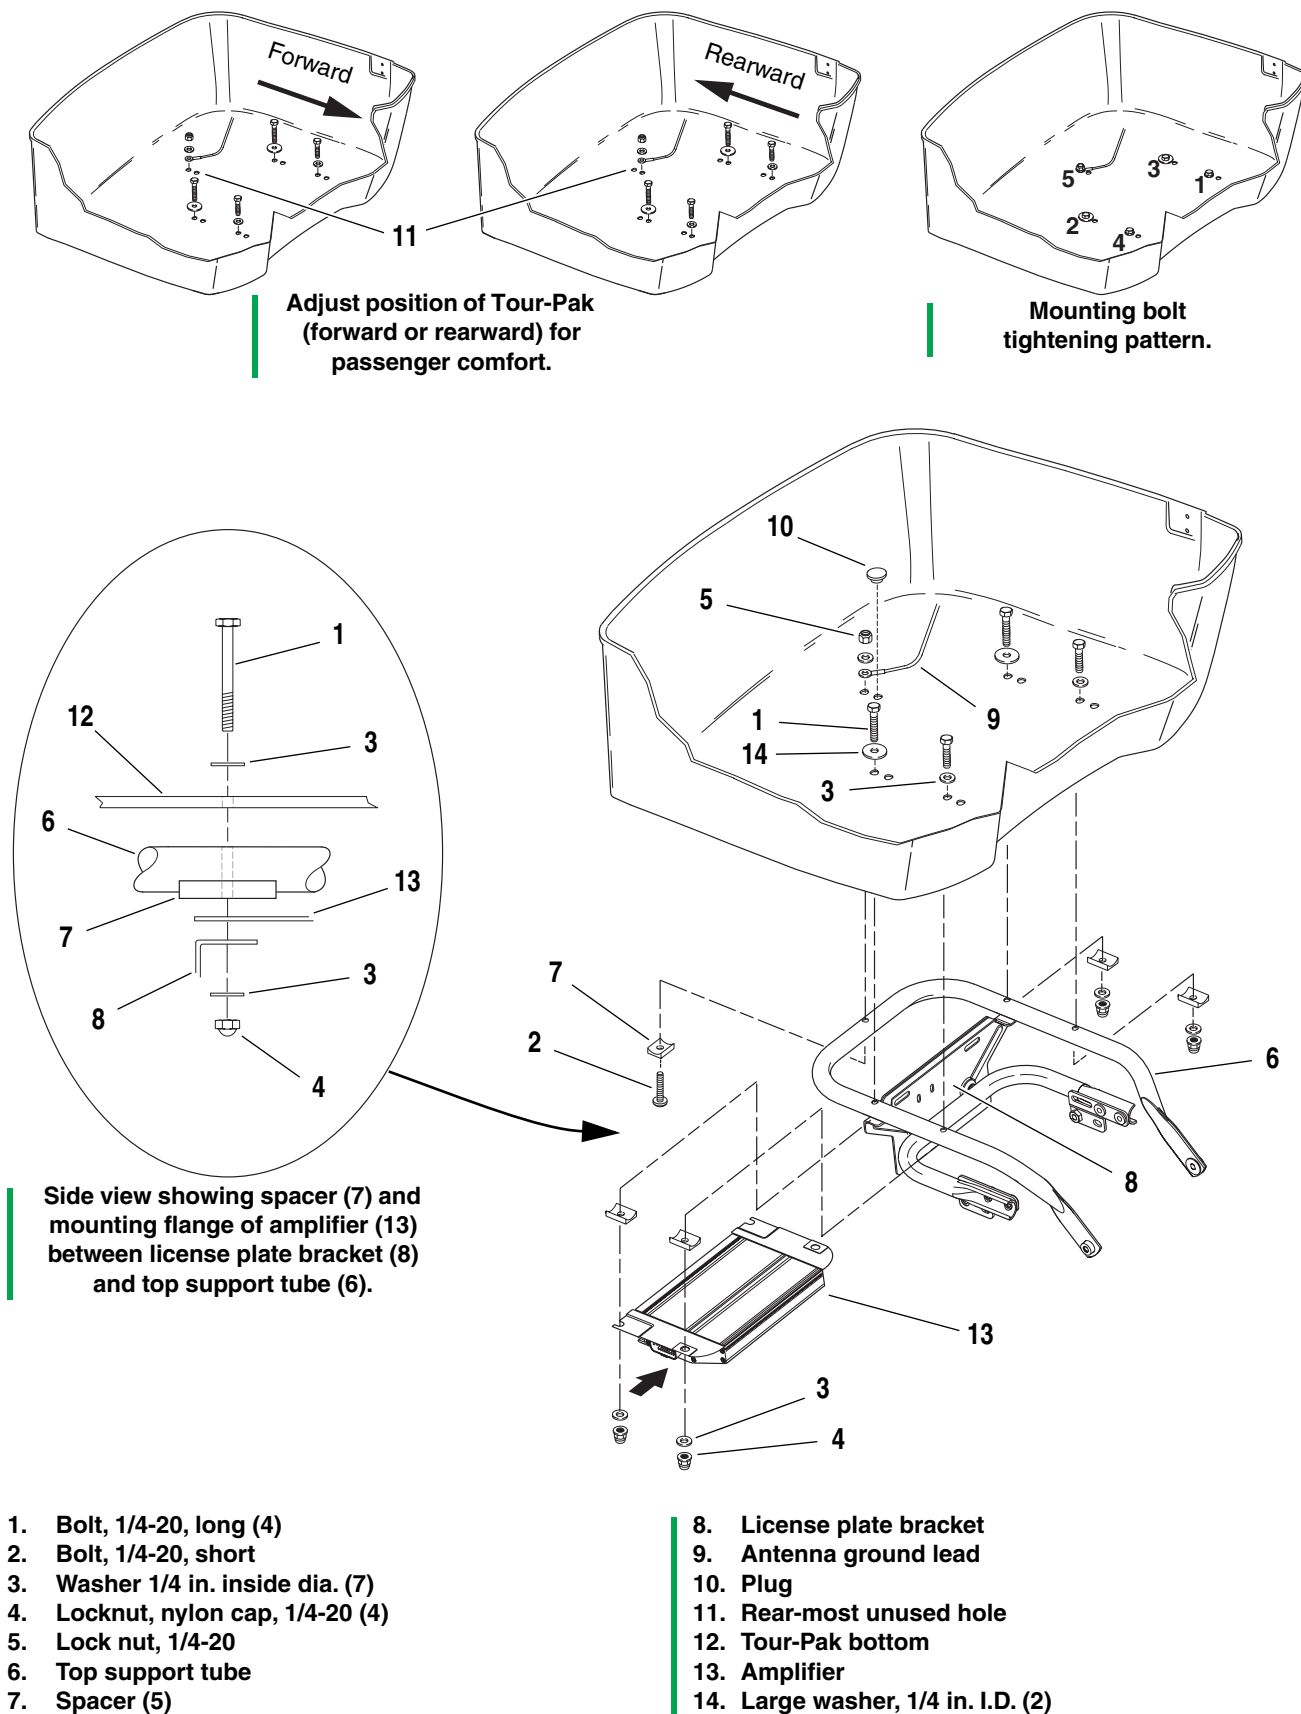

Figure 2-51. Tour-Pak Mounting
12. See Figure 2-51. Make note of which set of five holes are being used to mount Tour-Pak.
13. Unscrew and remove four locknuts with nylon caps (4) from bolts (1). Remove washers (3), spacers (7), bolts, and large washers (14).
1. See Figure 2-51. Place two spacers (7), one on each side, between top support tube (6) and license plate bracket (8). Line up holes in spacers with rear Tour-Pak mounting holes in top support tube.
3. Place a clean shop towel over rear fender underneath Tour-Pak. Slide amplifier from right side of vehicle, into position underneath Tour-Pak and rest it on shop towel with connector facing right side of vehicle and mounting flanges facing up. Position amplifier so that rear corners of mounting flange are between spacers (7) and license plate bracket (8).
4. From inside Tour-Pak, install right rear bolt (1) and large O.D. flat washer (14) through bottom of Tour-Pak (12), hole in top support tube (6), spacer (7), amplifier (13) flange and hole in license plate bracket (8).
5. Install flat washer (3) and locknut with cap (4) on right rear bolt and tighten "finger-tight". (This fastener will keep Tour-Pak in position while remaining bolts are installed.
6. Install rear bolt (2) from bottom, through spacer, hole in top support tube, bottom of Tour-Pak, antenna ground lead (9) ring terminal and flat washer. Secure with lock nut (5), finger-tight.
7. In the same manner, install remaining bolts, washers, spacers and nuts as shown in Figure 2-51.
8. Tighten five nuts and bolts to 96-108 **in-lbs** (10.9-12.2 Nm) in the pattern shown in Figure 2-51.